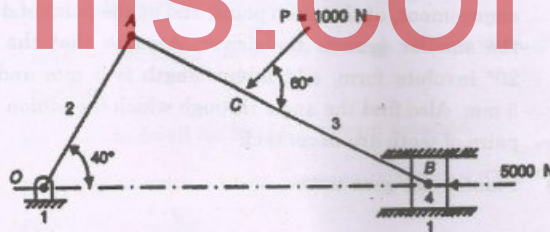

Fig. 4
14. (a) Determine the torque required to be applied at the crank shaft of a slider-crank mechanism to bring it in equilibrium. The slider is subjected to a horizontal force of 5000 N and a force of magnitude 1000 N is applied on the connecting rod as shown in Fig 4. The dimensions of various links are as follows :